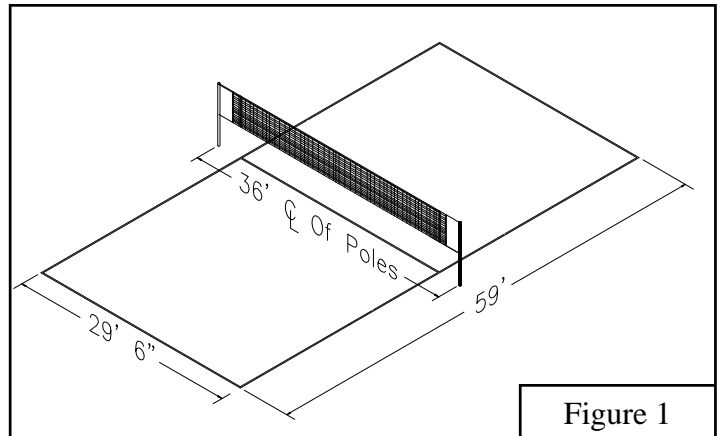

Figure 1
- Using the volleyball court layout, locate and dig two holes 8" in diameter by 17" deep 36 feet apart*. Fill hole with wet premix concrete, insert *Poles* (A), making sure the *Slider Bars* (B) are square to and facing each other. See Figure 1 and 2.